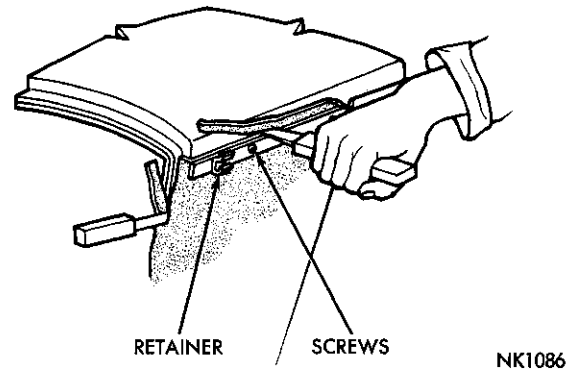

Fig. 181—Installing Cover Retainers
(31) Install the roof retainers over the cover (Fig. 181) and trim excess material using the retainer as a guide.